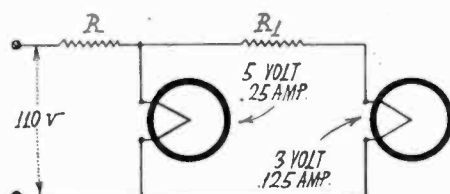

Fig. 1
2. Determine the values of R and R_1 in the network shown in Fig. 1.